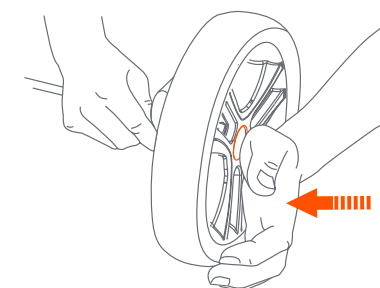

Fig. 3b
- Push in completely until it clicks into place (Fig. 3b).